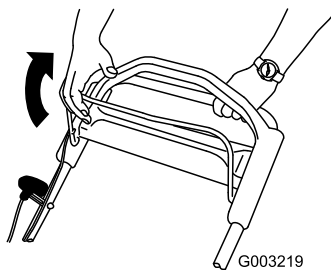

**Figure 14**
2. Firmly push in the primer once with your thumb (Figure 14).